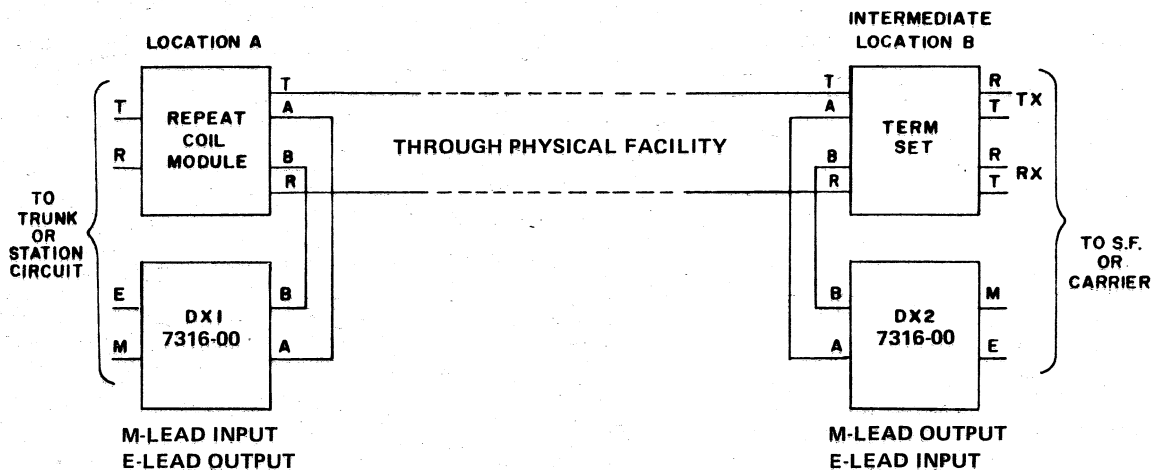

Figure 3. 7316-00 DX1/DX2 Applications Diagram
2.05 The current applied to the 7316-00 A lead (pin 53) passes directly to its associated repeat coil module (location A of Figure 3). It is then sent, via the tip lead of the cable facility, to the distant end. The current then passes through the distant-end repeat coil module to the A lead of the DX2.